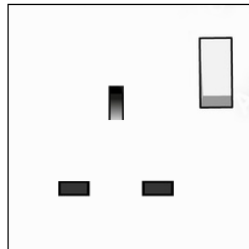

fig. 75 - English socket
- a English wall socket (BS1363) (fig. 75) with ground and separate protection